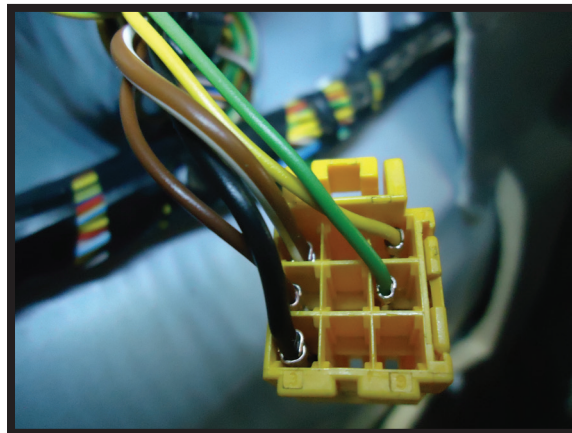

FIGURE 29
5. LOCATE THE YELLOW, 6-PIN CONNECTOR WITH 5 WIRES TERMINATED. (FIGURE 29)